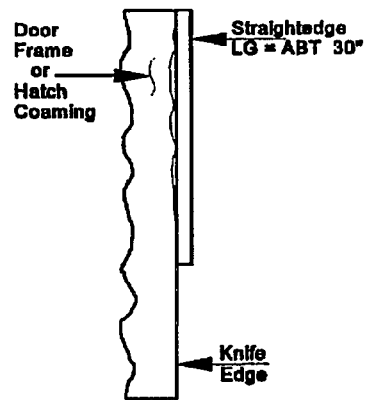
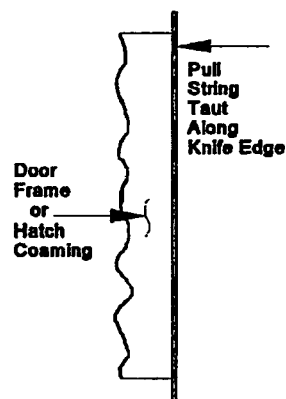
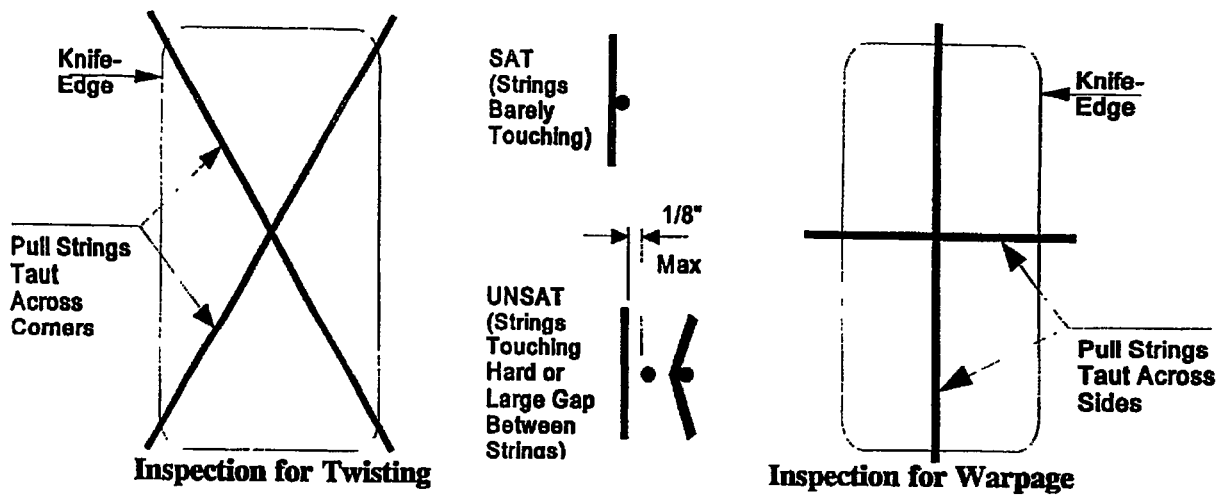

Figure 600-2.16. Knife-Edge Inspection Using Straightedge Method
Figure 600-2.17. Knife-Edge Inspection Using String Method
Figure 600-2.18. Knife-Edge Inspection for Warpage
- a. Open the fitting. Inspect the knife-edge for straightness and/or warpage using a straightedge and two lengths of string. See figure 600-2.16, figure 600-2.17, and figure 600-2.18. The maximum acceptable variation for knife-edge straightness is plus or minus 1/16 inch. The maximum acceptable warpage of the door frame is 1/8 inch. If frame/coaming warpage is excessive, or if the knife-edge straightness is not within tolerances, initiate action to replace the closure.